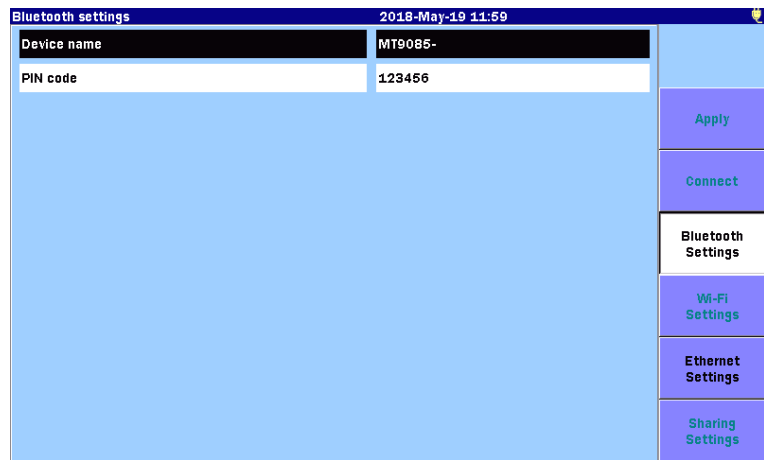

Figure 12.2.2-1 Bluetooth Settings Screen
4. Click **Send files**.5. Click the icon of the device displayed on the Bluetooth Settings Screen (Figure 12.2.2-1) and click **Next**.
9. Enter the PIN code displayed on the Bluetooth Settings screen (Figure 12.2.2-1) and click **Allow**.